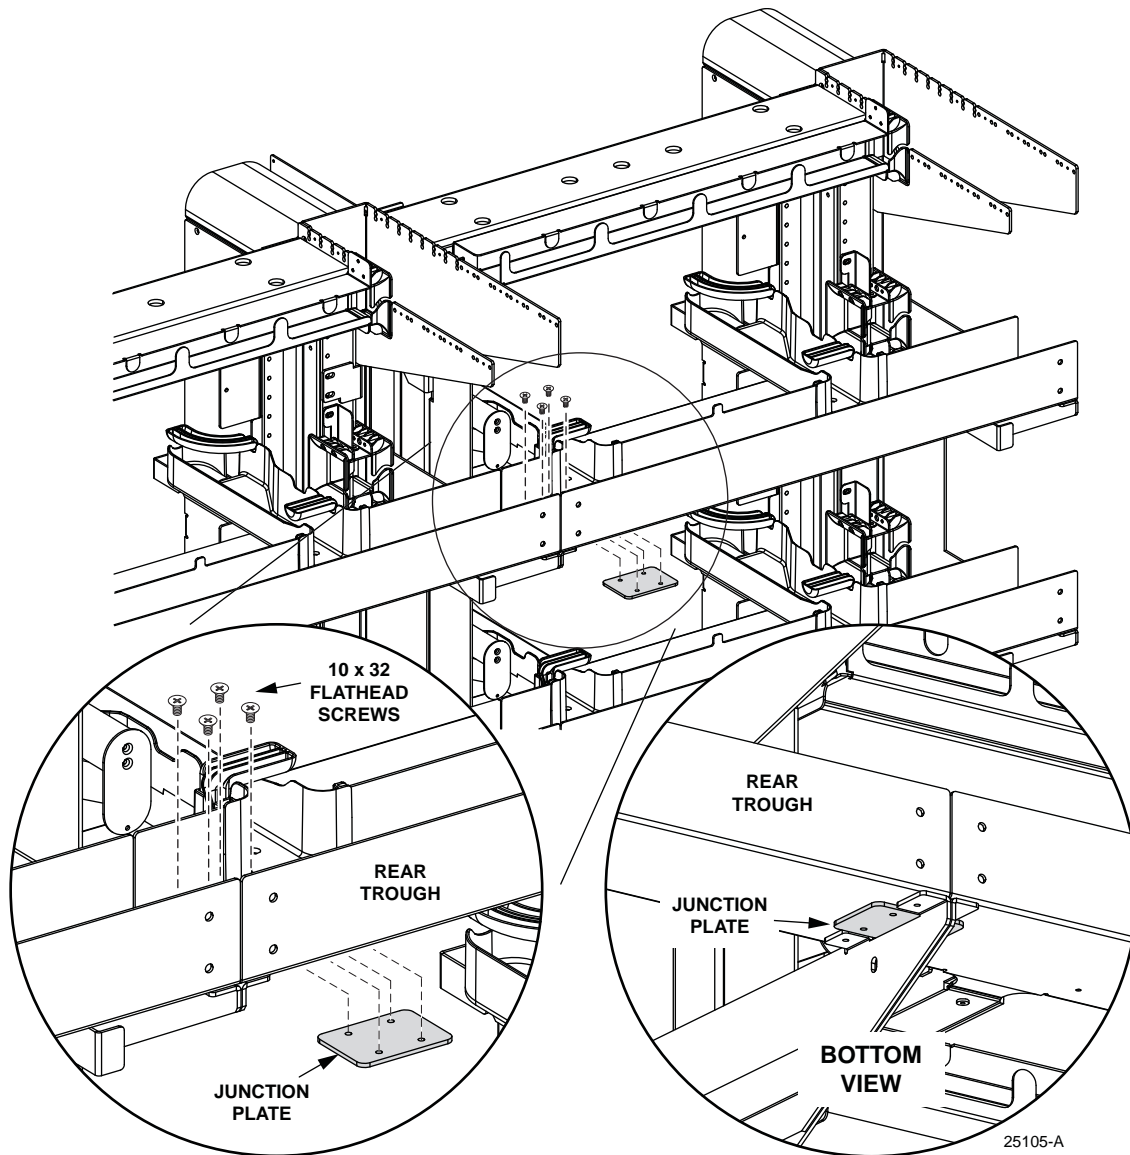

Figure 54. Installing Junction Plates (Six Places)
1. Position yourself on rear side of the two frames. Locate the place where the two top horizontal troughs interface with one another. Install a junction plate spanning the two troughs on the bottom side (Figure 54). Secure using four 10x32 flathead screws.